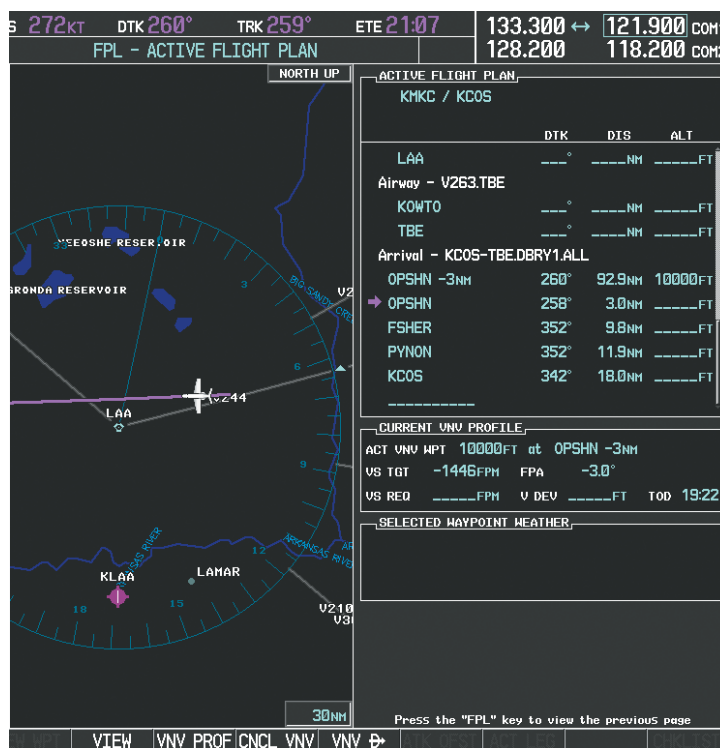

Figure 5-131 Direct-to Active
h) Press the **ENT** Key twice to activate the direct-to. Note, in Figure 5-131, the magenta arrow indicating the direct-to OPSHN after the offset waypoint for OPSHN. The preceding offset waypoint indicates the offset distance and altitude that were previously entered. The remaining waypoints in the loaded arrival procedure have no database specified altitudes, therefore, dashes are displayed. Keep the CDI centered and maintain a track along the magenta line to OPSHN.